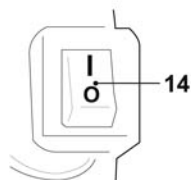

Fig. 8
- > Place the switch (on/off) [14] on «I» (Fig. 8) (Cold or hot start).